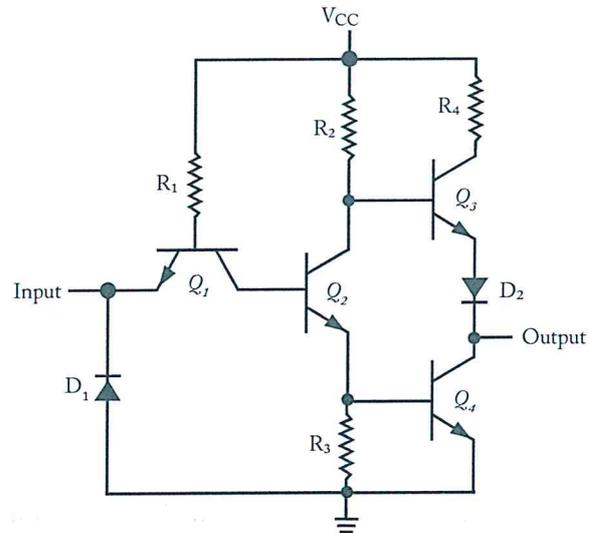

Figure 1-90. An electronic circuit that reliably performs the NOT logic function
*Figure 1-90* illustrates an electronic circuit schematic diagram that performs the logic NOT gate function. Any input, either a no voltage or voltage condition, yields the opposite output. This gate is built with bipolar junction transistors, resistors, and a few diodes. Other designs exist that may have different components. When examining and discussing digital electronic circuits, the electronic circuit design of a gate is usually not presented. The symbol for the logic gate is most often used. The technician can then concentrate on the configuration of the logic gates in relation to each other.